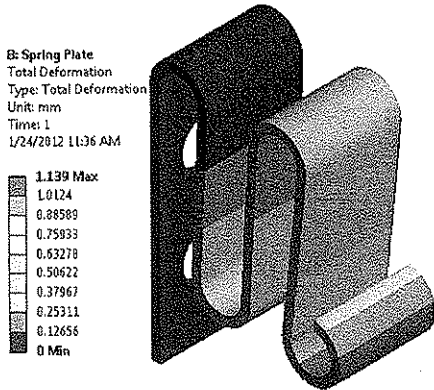

Figure 9-50 Total Deformation in the model
8. In the tree Outline, select **Total Deformation** to visualize the results; the deformed model is shown in the Graphics screen, as shown in Figure 9-50.